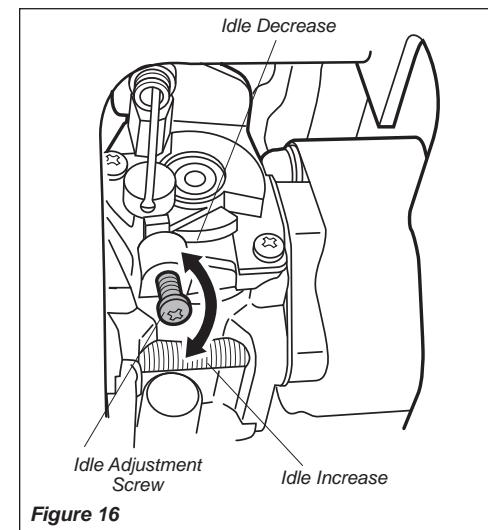

Figure 16
2. If a tachometer is available, the engine idle speed should be final adjusted to 2,000 (± 200) min⁻¹ (RPM). See Figure 16.